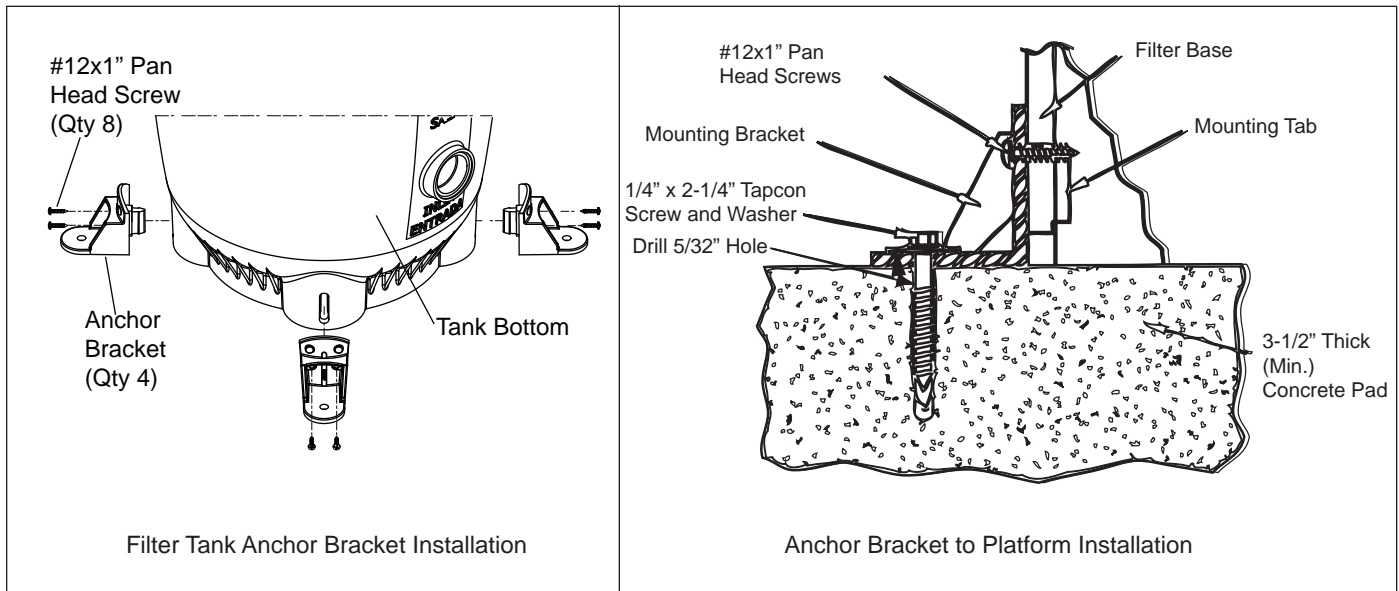

Figure 3. Anchor Filter to Equipment Pad
Install the Tapcon® screws and washers through each of the four (4) anchor brackets to secure the filter to the equipment pad. See Figure 3. **Do not over-torque the screws.**